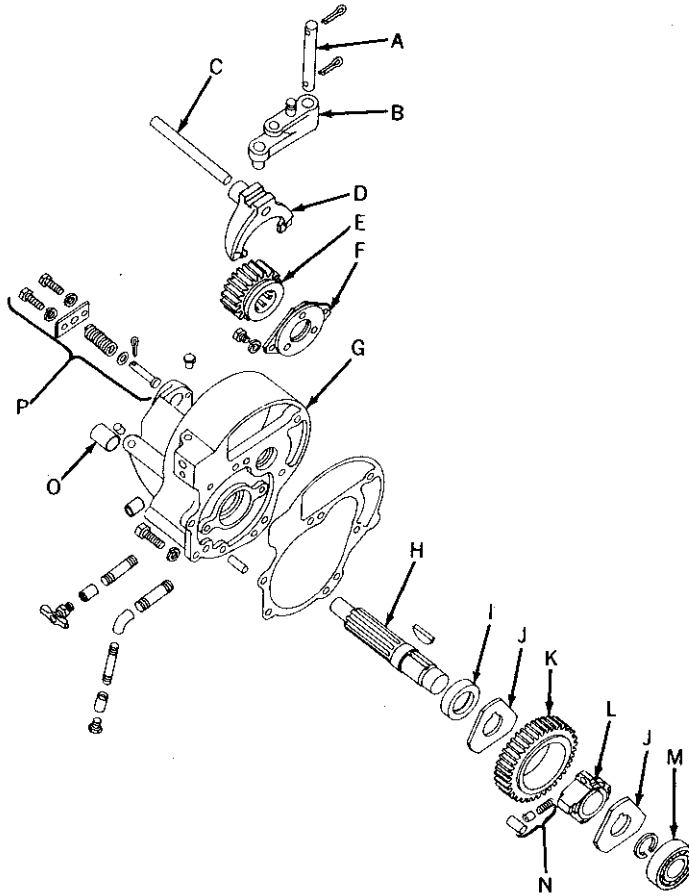

Figure 65-20-10—Exploded View of Transmission
*NOTE: For aid in assembling transmission, refer to Figure 65-20-10.*